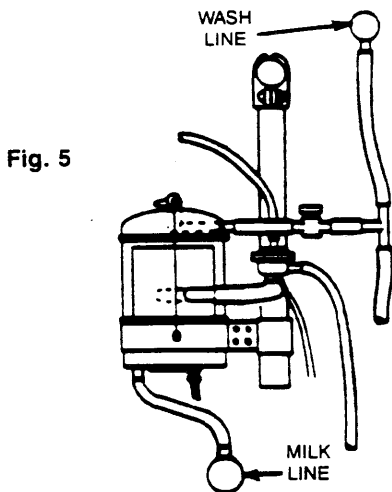

Fig. 5
2. Mounting of the Flo-Meter must be above the milk line. By using the tee clamps and support posts, mount the Flo-Meter in as level a position as shown in Fig. 5.